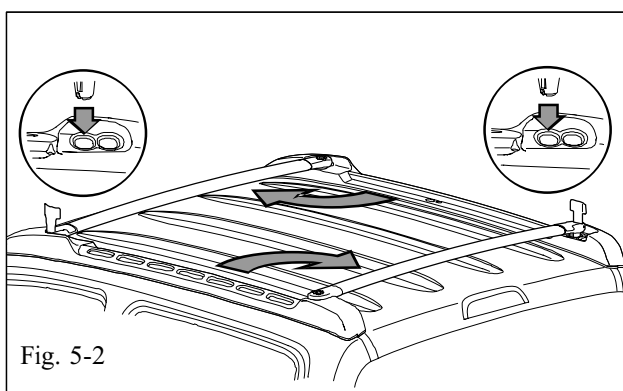

Fig. 5-2
- (d) Lift LH & RH crossbar levers into open position and rotate crossbars so they rest on the base rails as shown, do not latch. (Fig. 5-2)